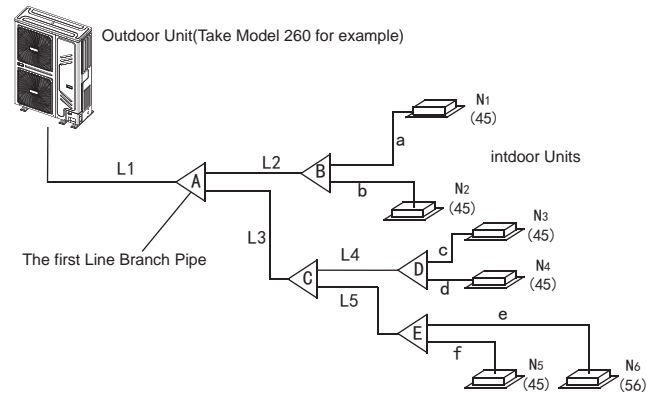

Fig. 4-5
- 2) Example 1: In the Fig.4-5,The downstream inner units of the L2,and its total capacity is  $45 \times 2 = 90$ , refers to the Table 4.4,the air/liquid side of L2 is:  $\Phi 15.9/\Phi 9.5$ .